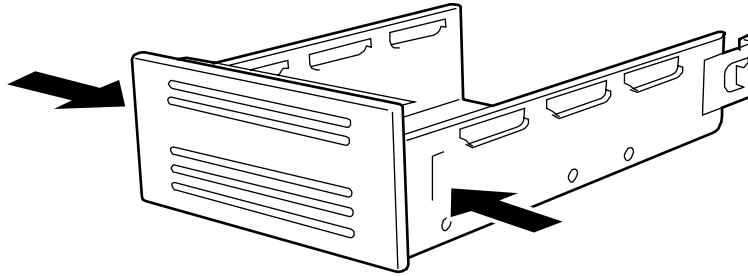

Figure 4-42. Releasing the Device Bay Front Panel
- 13.** Push in on the tabs securing the front panel to the device carrier. See Figure 4-42.